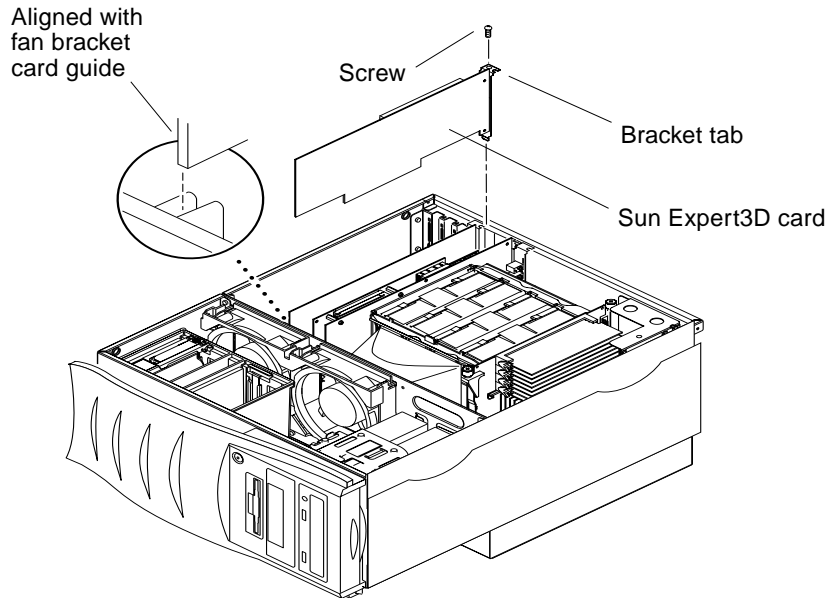

FIGURE 2-4 Installing Sun Expert3D Graphics Card in an Ultra 80 System
- b. Lower the Sun Expert3D connector so that it touches its associated PCI card slot on the motherboard (FIGURE 2-4).